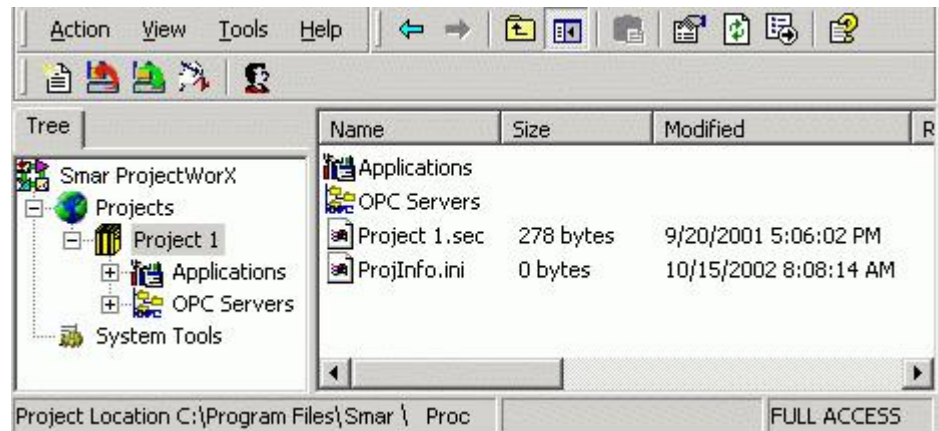

Figure 9.2. ProjectWorX Console
3. The **Smar ProjectWorX Projects** console opens in the Microsoft Management Console, as shown in **Figure 9.2**. This is the main ProjectWorX console that allows you manage your ProcessView projects. This is a split window with a tree control view in the left-hand pane and a configuration view in the right-hand pane.